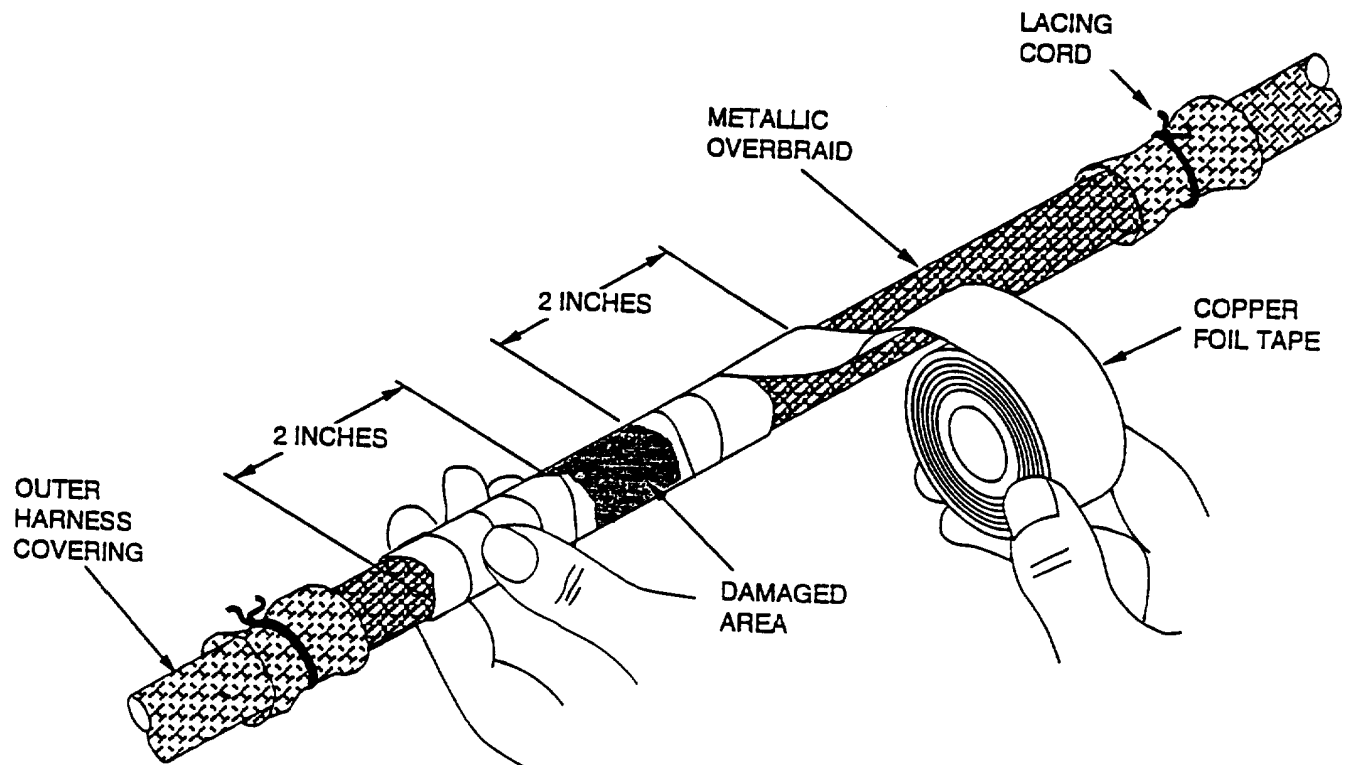

Figure 44. Repair Metallic Overbraid (Shield)
i. Using adhesive copper foil tape, beginning 2 inches on either side of damage and extending 2 inches beyond damage, wrap copper foil tape around metallic overbraid while applying pressure to ensure adhesion of foil to overbraid, overlapping each wrap 50 percent (Figure 44).